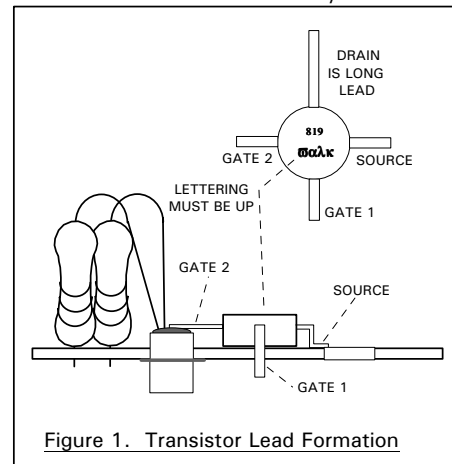
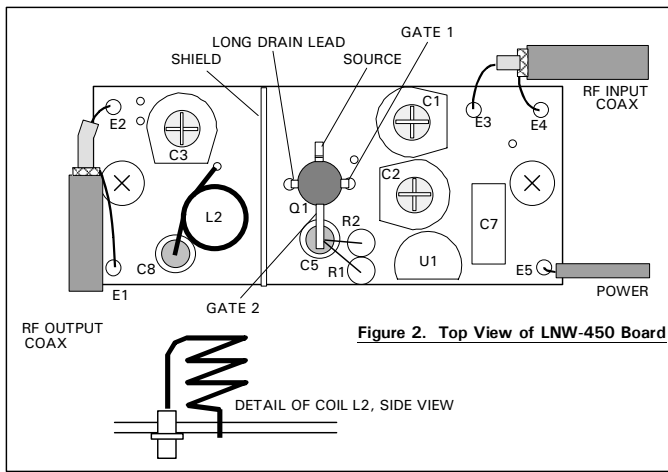

Figure 1. Transistor Lead Formation
Figure 2. Top View of LNW-450 Board
b. Install feedthrough capacitors C5 and C8 as shown in figures 1 & 3. Insert them from the **BOTTOM** of the board with the tapered part toward the board. Hold the soldering iron at the base of the capacitor until the solder on the capacitor melts. Once the solder melts at one point, it is easy to get all the solder to be molten at one time by running the iron around the edge of the capacitor. Then, the ft capacitor will settle onto the board. If necessary to seat it, you can press *lightly* on the metal base of the capacitor with the soldering iron once the
c. Figure 2 shows the placement of Q1 on the board. The drain is the long lead. Figure 1 shows how to form the leads.
Pick up the transistor and orient it as shown in figure 2 *with lettering up*. Make sure you know which lead is which. Gently bend the source, gate 1, and drain leads down at a 90° angle as shown in figure 1. Then, bend the bottom of the source lead out away from the transistor to form an "L" shaped foot. When formed properly, the transistor will sit flush with the board as shown. (The gate 2 lead is not bent.)
Insert the drain and gate 1 leads through the holes in the board. The foot formed in the source lead should rest on the top of the board as shown in figures 1 and 2. Tack solder the foot of the source lead to the board. Check that the transistor is down against the board as shown in figure 1. Check again that the transistor is oriented properly with the lettering up and the long lead in the hole for the drain. Then, solder the gate 1 and drain leads to their pads under the board. Trim off end of drain lead below board.
d. Install vertical resistors R1 and R2 in the holes shown in figure 2. Solder their bottom leads. Then, refer to figure 1 and bend the top leads over, inserting them into the center of ft capacitor C5. Trim these leads off at the bottom. Bend the fet gate 2 lead over to touch the top of the ft capacitor, and then solder all three leads to the metalization in the center of the capacitor. It is not necessary to completely fill the capacitor with solder as long as the three leads are all soldered at the top.
e. Solder metal shield to ground plane on top of pc board in position shown in figure 2. Keep the shield as close as possible to the transistor to leave room for output coil L2. First, tack solder the shield to the board at each end. Once the shield is aligned properly, run a bead of solder the whole length of the shield. Then, run a second bead of solder on the other side of the shield. Soldering on both sides of the shield provides maximum mechanical support for the shield.
diameter. The shank of a drill bit makes a good tool for accurate coil winding. The coil turns should be spaced one wire diameter apart. The coil is mounted vertically, as shown in fig 2, with the bottom lead soldered to a pc board pad, and the bottom of the coil spaced just a little away from the ground plane. Form the top lead over to and insert into the top of ft cap C8 and solder.
Connect the input and output terminals in the receive signal path with miniature coax, such as RG-174/u, as shown in figure 2. Be sure to keep the stripped pigtails as short as possible to maintain a 50Ω path. Connections are made by inserting the stripped ends of the pigtails into the pads on the board and soldering. Normally, the preamp is mounted in some sort of enclosure with UHF or similar connectors on the enclosure and miniature coax installed between the preamp and the large coax connectors. In some cases, the output of the preamp can go directly to the receiver with the miniature coax.